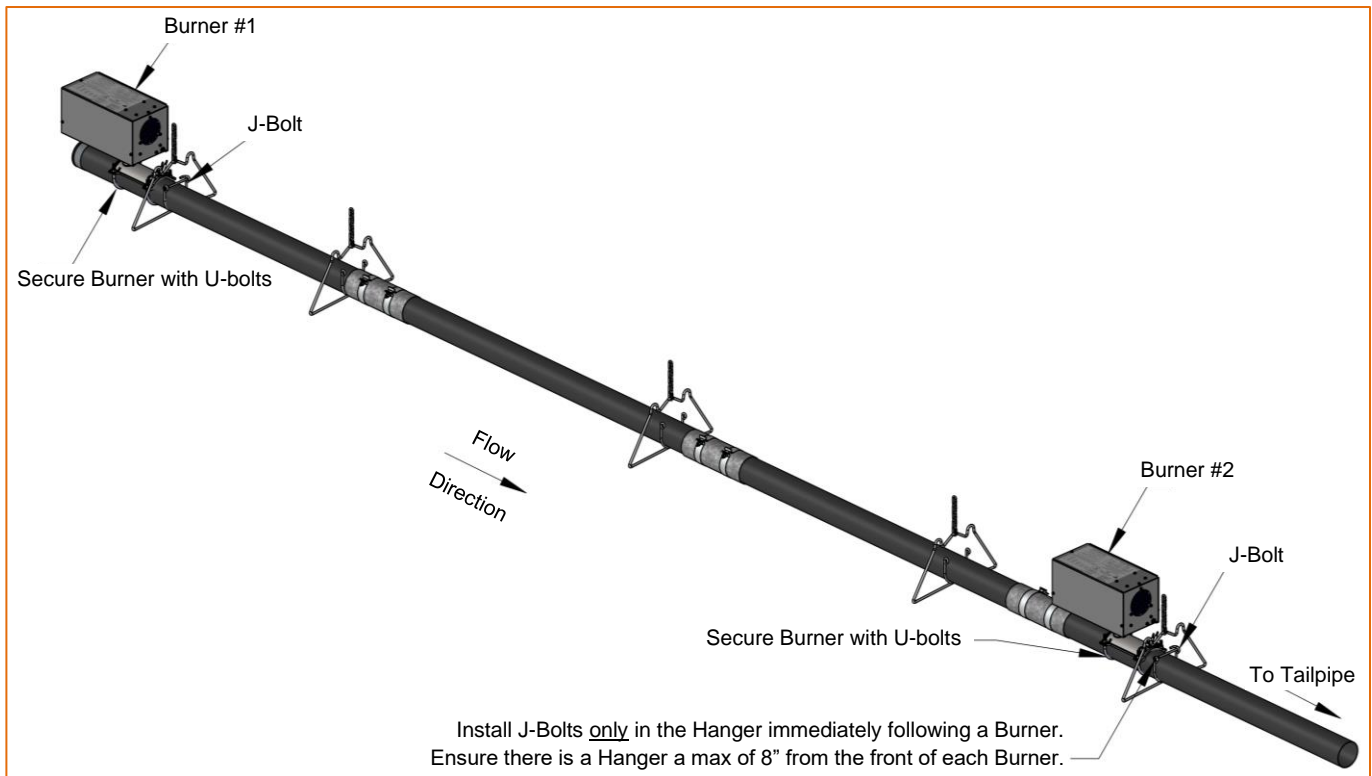

Figure 18: View of System after Installation of Burners
2. Use the J-bolt (included with the Burner packaging) to clamp the Tube snugly at the first Reflector Hanger after a Burner mounting hole location. This prevents the Tube from rotating once the Burner is installed. (Refer to Figure 16 and Figure 18)